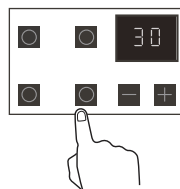

Fig.16
5. Touching a burner selection button indicator will result in the the corresponding burner flashing and the display showing the remaining time of the burner. (Fig. 16)